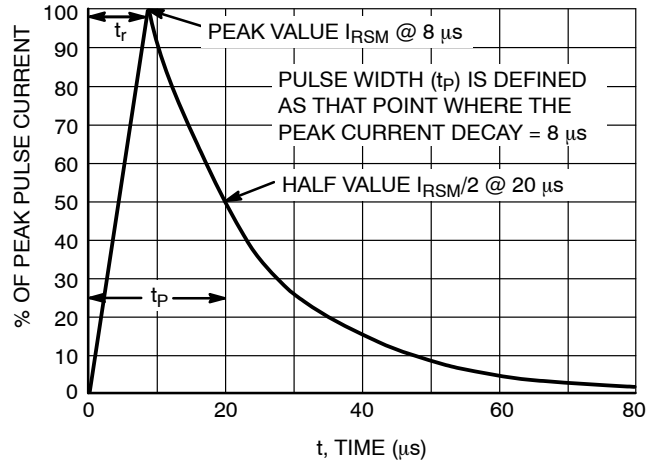

Figure 2. 8 × 20 μ s Pulse Waveform
- Peak Power: 150 W @ 20 μ s (Unidirectional), per Figure 2
3. Non-repetitive pulse per Figure 2.